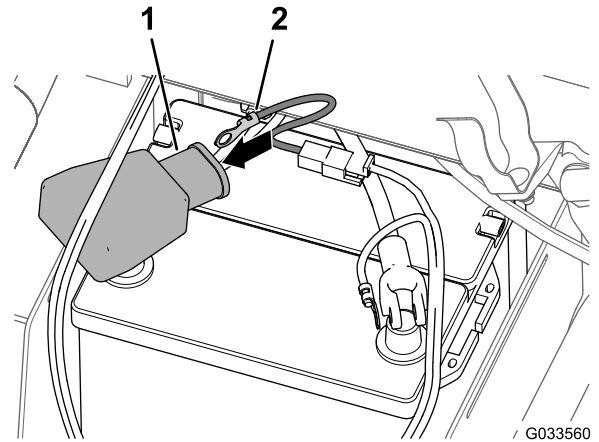

Figure 27
4. Align the ring terminal of the fusible link (sprayer wire harness) through the wide battery cover as shown in Figure 27.